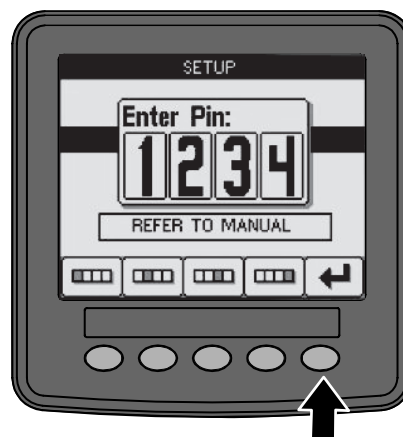

Figure 17
3. When you complete entering the PIN, select the enter icon (Figure 17).